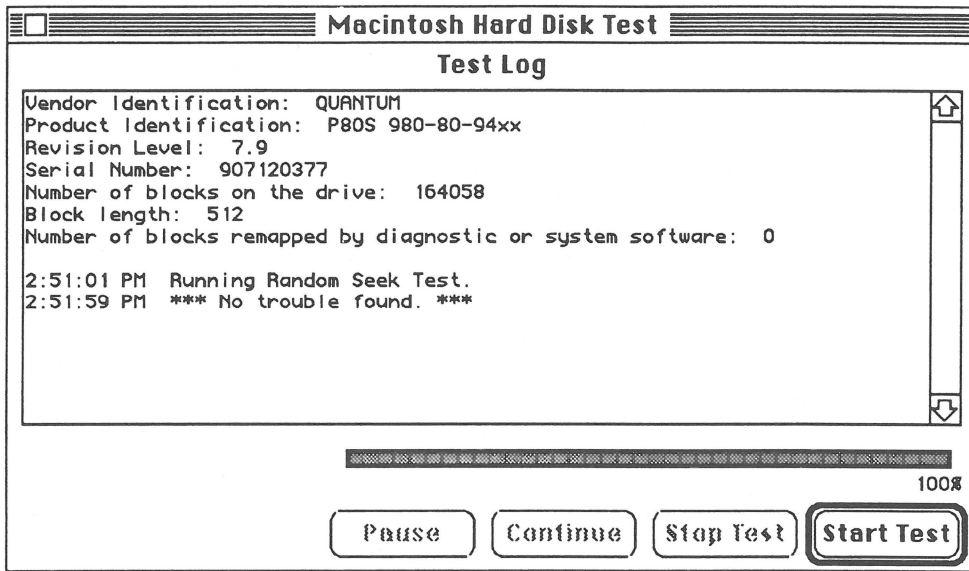

FIGURE 2
10. When you are ready to start the diagnostic, click **Start Tests**. The diagnostic runs the selected tests and displays the Test Log (Figure 2). The Test Log does the following:
- Provides information about the drive being tested. When testing a SCSI drive, the Test Log displays the type of information shown in Figure 2.